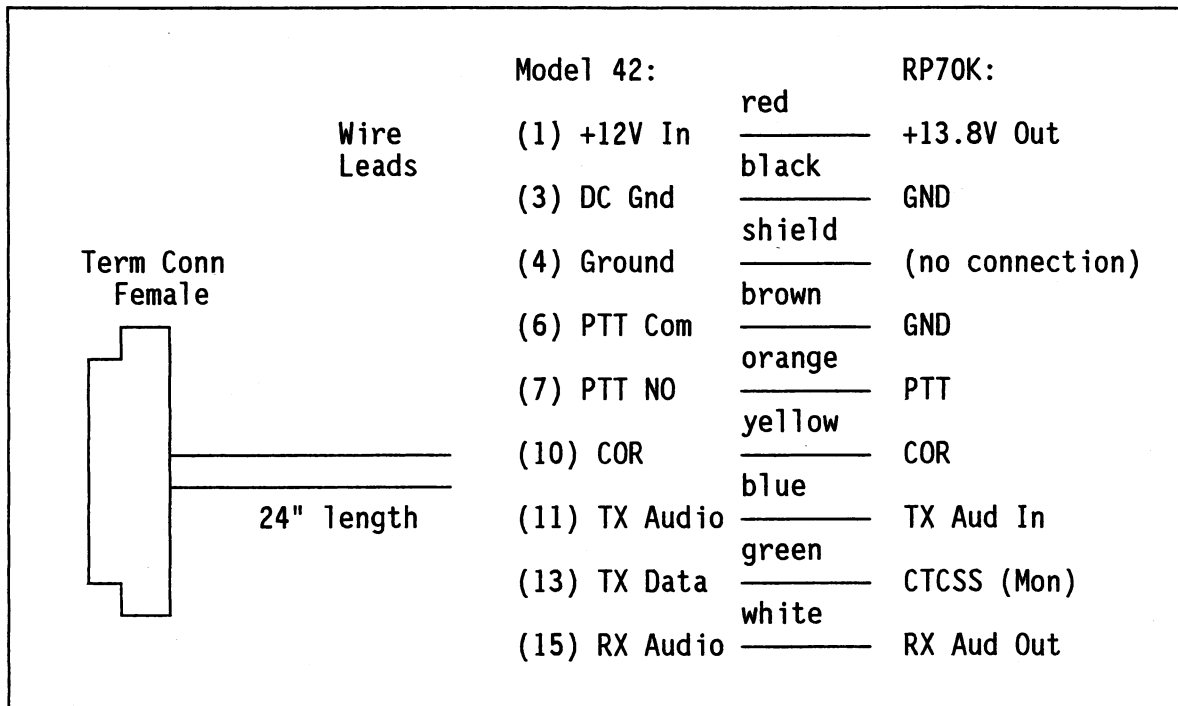

Figure 4-17. Model 42 to Generic Repeater Cable (P/N 709-7116)
- []20. Connect the Model 42 to the RP70K with the Generic Repeater Cable (709-7116). Refer to Figure 4-17.